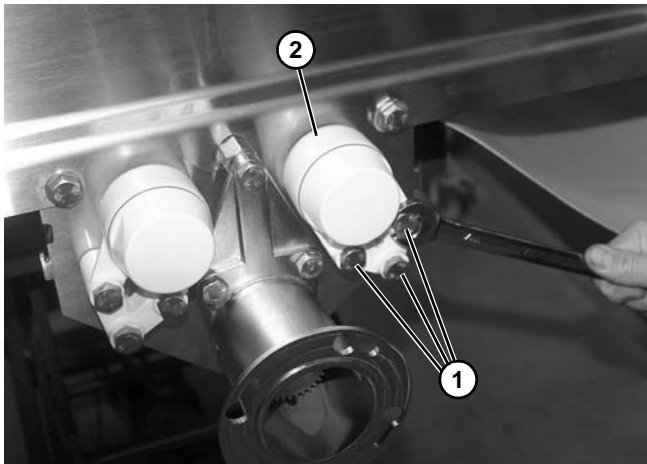

Figure 91
13. Remove three screws (Figure 91, item 1) on each roller bearing housing (Figure 91, item 2).